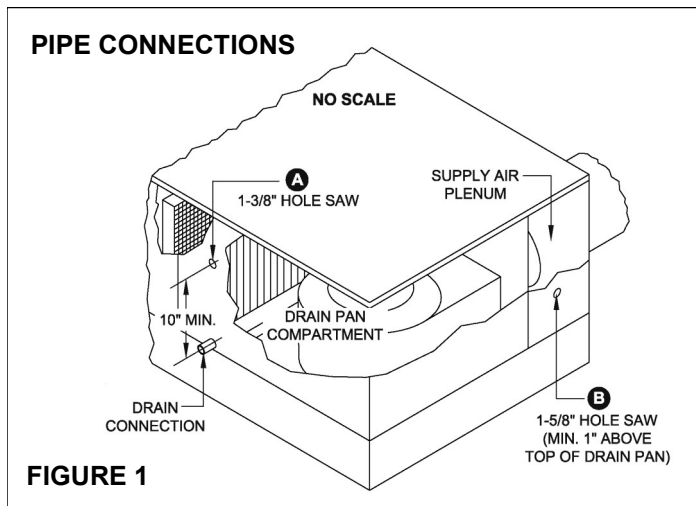

FIGURE 1
Apart from the drain pan connection, two additional piping connections are required as shown in Figure 1. Point A should connect to the drain pan compartment, while the connection at point B must connect to the discharge side of the fan (supply plenum or supply duct). 1-3/8" and 1-5/8" hole saws are used to penetrate panels. Some HVAC manufacturers units that are "CostGard™ Ready" with penetrated panels.
- STEP 1: Penetrate the side panel at point A (as shown in Figure 1) using a 1-3/8" hole saw. Insert the rubber grommet provided, and ensure that the hole is at least 10" above the condensate drain connection and open to the condensate drain pan compartment.
- STEP 2: Penetrate the side panel at point B (as shown in Figure 1) using a 1-5/8" hole saw. Insert the rubber grommet provided and ensure that the hole is at least 1" above the top of the condensate drain pan and open to the supply air plenum. Alternatively, point B can be moved to the supply duct.